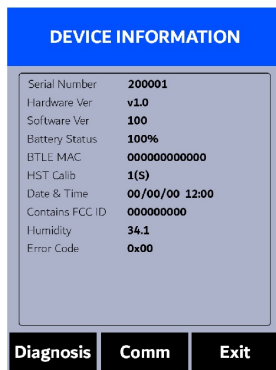

Figure 7.
The **DEVICE INFORMATION** screen is launched when **Info** (OK) is pressed in the measurement mode. This screen contains the device serial number, software version, and hardware version (Figure 7). The battery life as a percentage and the MAC addresses for main module also shown.